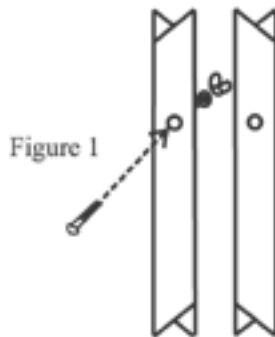

Figure 1
1) Take the four tables legs and make two sets as shown in figure 1. Insert carriage bolts through the holes in the legs and secure with a flat washer and wingnut. Make sure the two leg assemblies are mirror images of one another as shown.